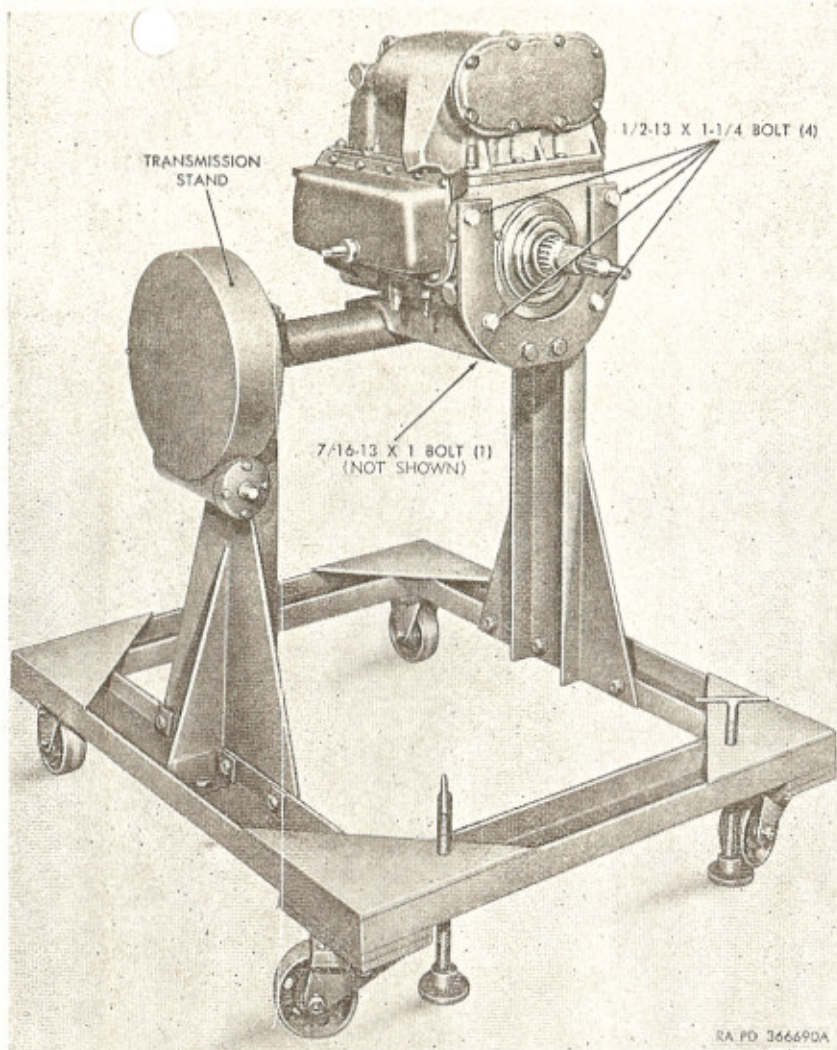
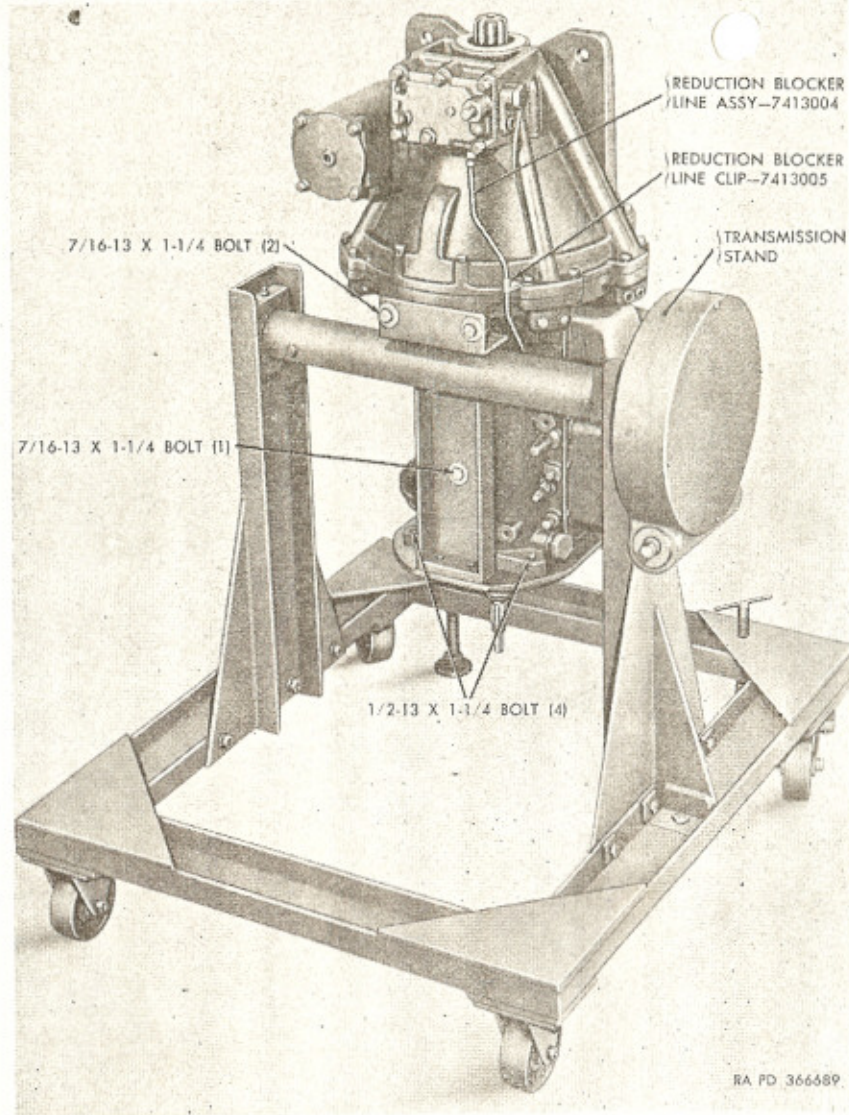

Figure 18. 301MG transmission mounted in stand—D7950874
Figure 19. 303M transmission mounted in stand—D7950874.
k. Mount 301MG transmission to repair stand—D7950874 (fig. 18), using four $\frac{1}{2}$ -13 x $1\frac{1}{4}$ bolts to attach front of transmission
l. Mount 303M transmission on repair stand—D7950874 (fig. 19), using four $\frac{1}{2}$ -13 x $1\frac{1}{4}$ bolts to attach front of transmission to stand. Use one $\frac{7}{16}$ -13 x 1 bolt (fig. 18) to attach top of transmission case to stand and two $\frac{7}{16}$ -13 x $1\frac{1}{4}$ bolts to attach output shaft bearing retainer to stand.
a. Remove reduction blocker line assembly (fig. 19) and clip from transmission case and reduction unit control valve.